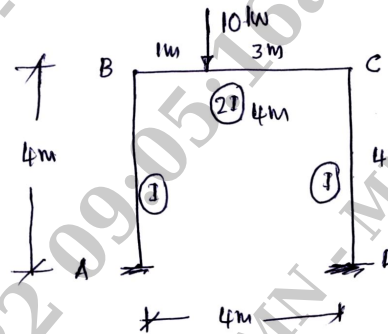

Fig.Q.2
- 2 Analyze the portal frame shown in Fig.Q.2 by slope deflection method. Draw BMD. (20 Marks)